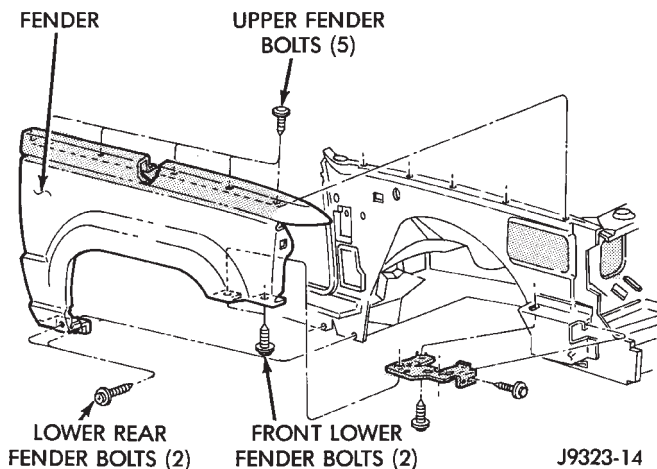

Fig. 24 Fender Mounting
- (8) Remove 2 bolts at front fender bracket (Fig. 24).
- (9) Remove 2 bolts at lower rear of fender at A-pillar (Fig. 24).
- (10) Remove 5 upper mounting bolts at top of fender (Fig. 24).
- (11) Remove fender from inner fender.
- (1) Position fender on inner fender panel (Fig. 24).